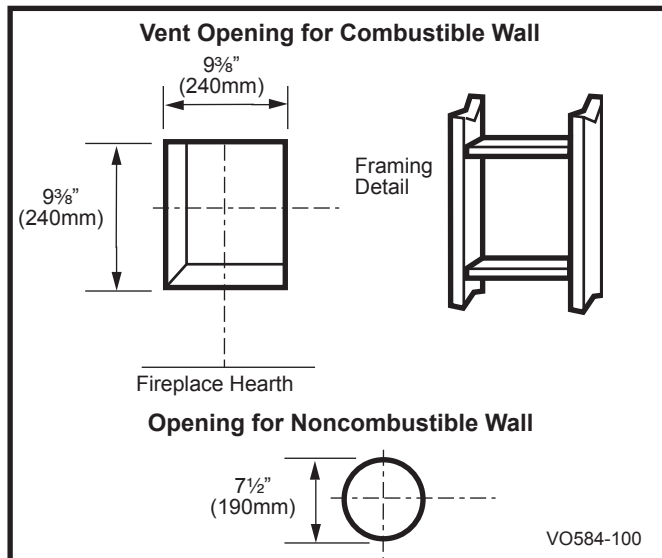

Fig. 18 Locate vent opening on wall.
Locate vent opening on the wall. It may be necessary to first position the fireplace and measure to obtain hole location. Depending on whether the wall is combustible or noncombustible, cut opening to size. (Fig. 18)
Combustible Walls: (Fig. 18) Cut a 9 3/8" H x 9 3/8" W (240 x 240 mm) hole through the exterior wall and frame as shown.
Noncombustible Walls: (Fig. 18) Hole opening must be 7 1/2" (190 mm) in diameter.
1. Establish vent hole through the wall. (Fig. 18)